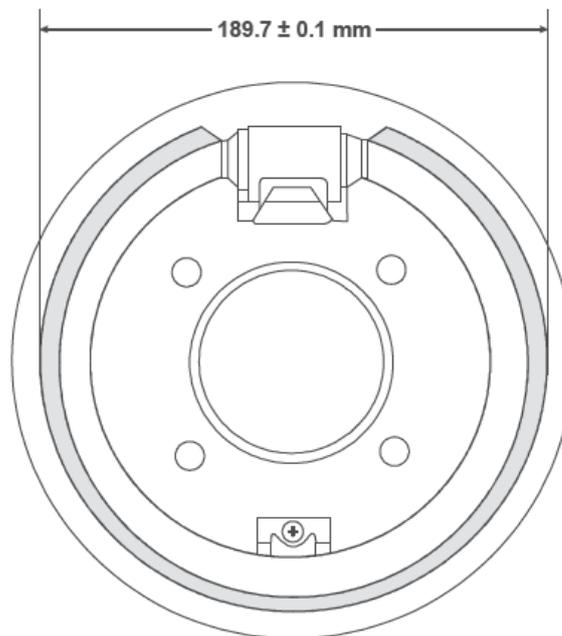

Figure 11 Park Brake Shoe Diameter – Adjustment
- Adjust the shoe diameter to  $189.7 \pm 0.1$  mm (Figure 11).